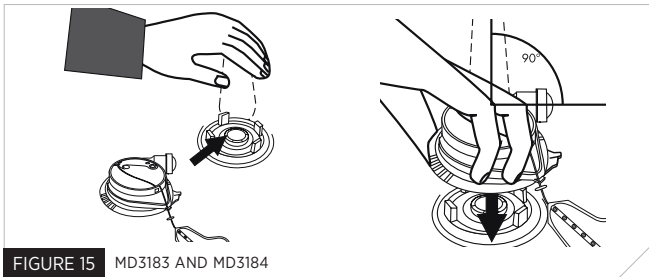
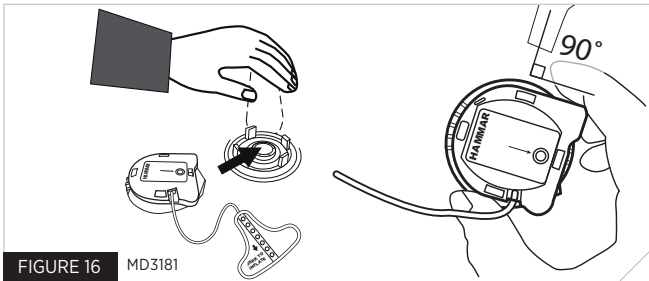

FIGURE 15 MD3183 AND MD3184
FIGURE 16 MD3181
- Hold the CO₂ cylinder through the fabric of the PFD. Position the replacement cap with the water inlet valve pointing to the right and press firmly onto the inflator body and sealing ring (Fig. 15 for models MD3183 and MD3184, and Fig. 16 for model MD3181).